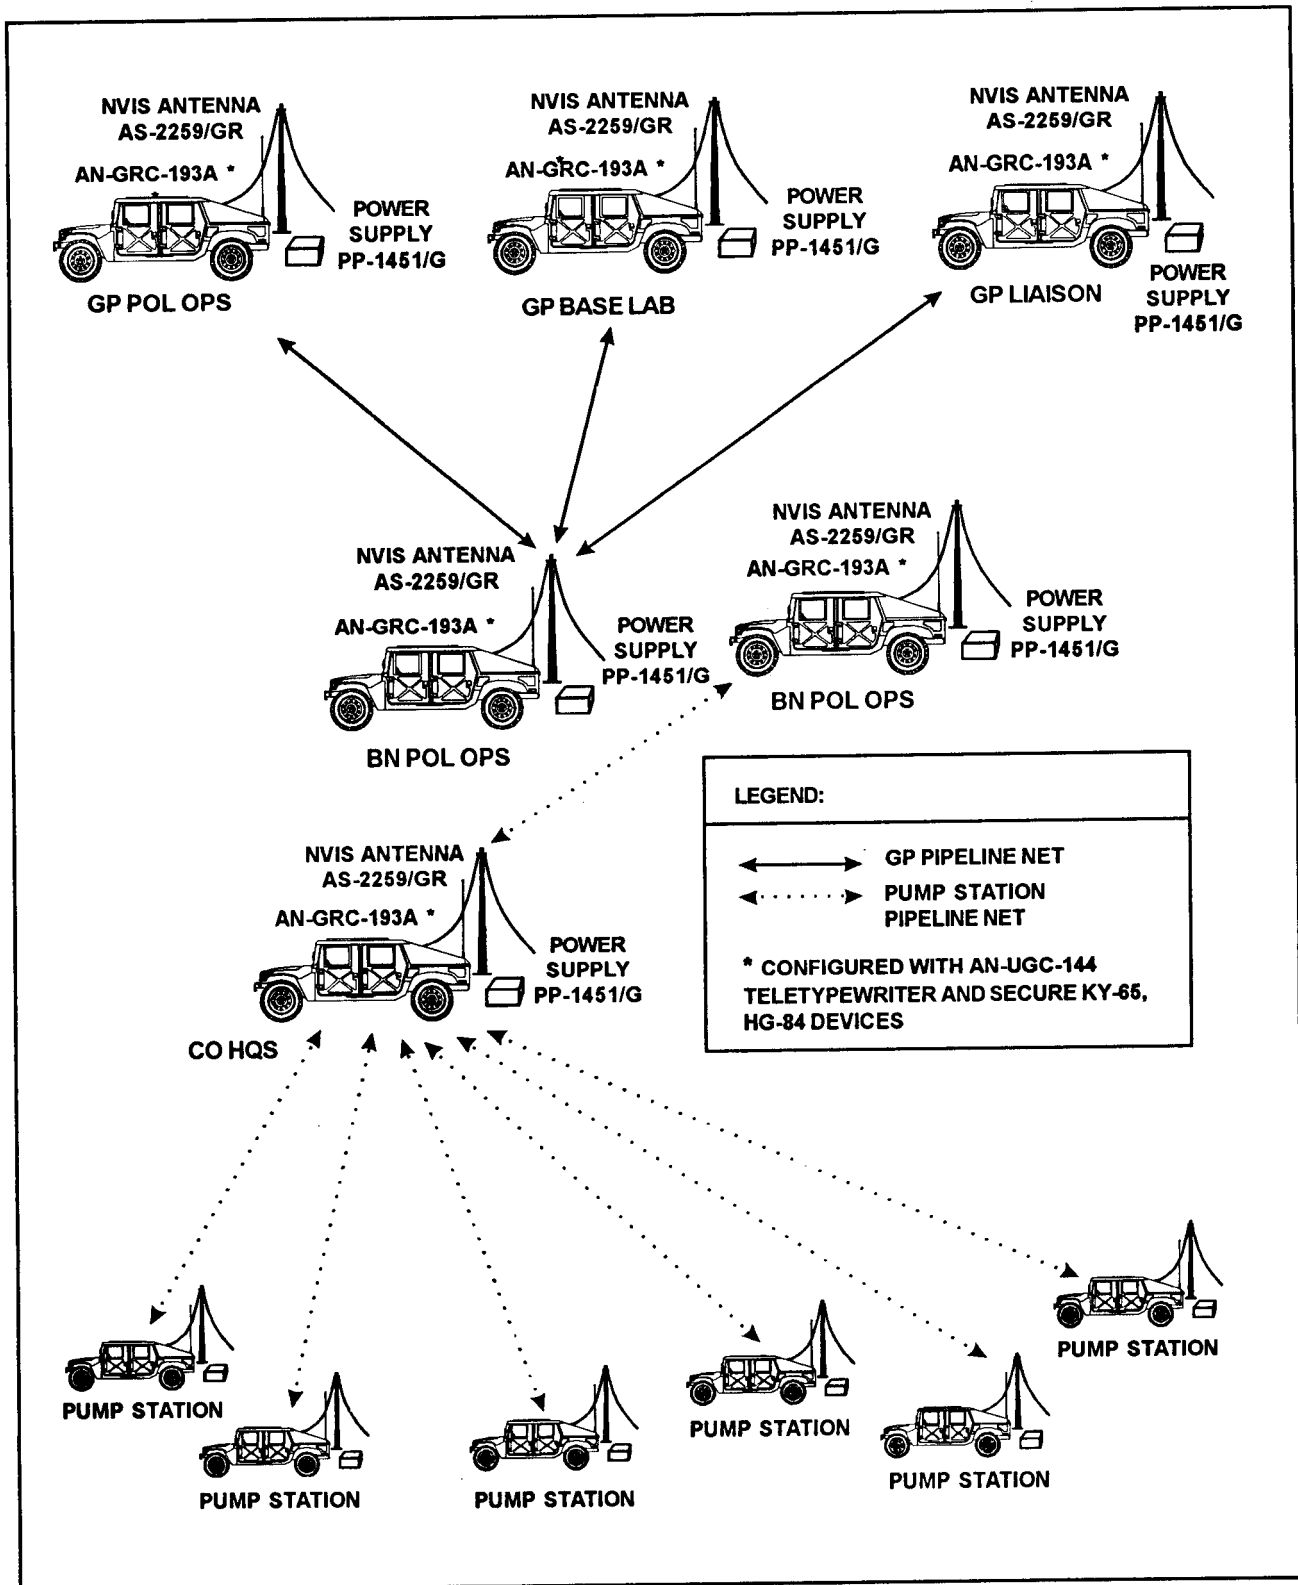

Figure 4-3. Battalion group pipeline nets (AM HF radio)
- AM high frequency radio. The battalion will employ the AN/GRC-193A HF radio shown in figure 4-3, page 4-10. The AN/GRC-193 is a rugged, tactical,